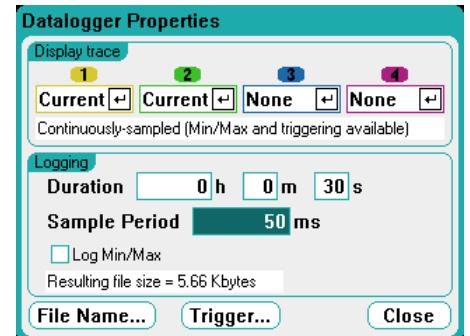

Figure 10 – Datalogger Properties
7. Press the “Properties” key to set up the data logger (see Figure 10).